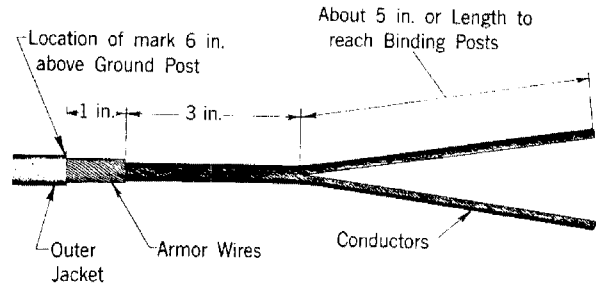

Fig. 7 – Prepare Ends of First Two Wires
- (b) Pull the slack from the first two D Underground Wires and mark the outer jacket about 6 inches above the ground post. Prepare the ends of the wires as illustrated in Fig. 7.